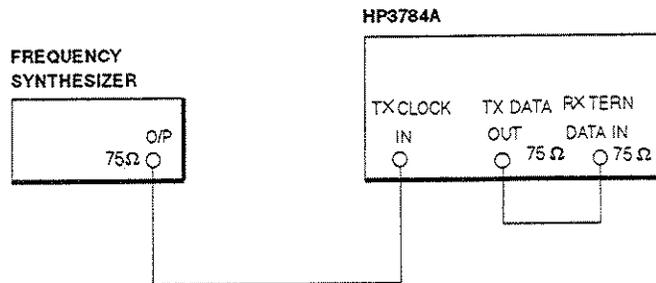

Figure 8-12 Receiver Clock Recovery Test Set-up
1. Connect the equipment as shown in Figure 8-12.